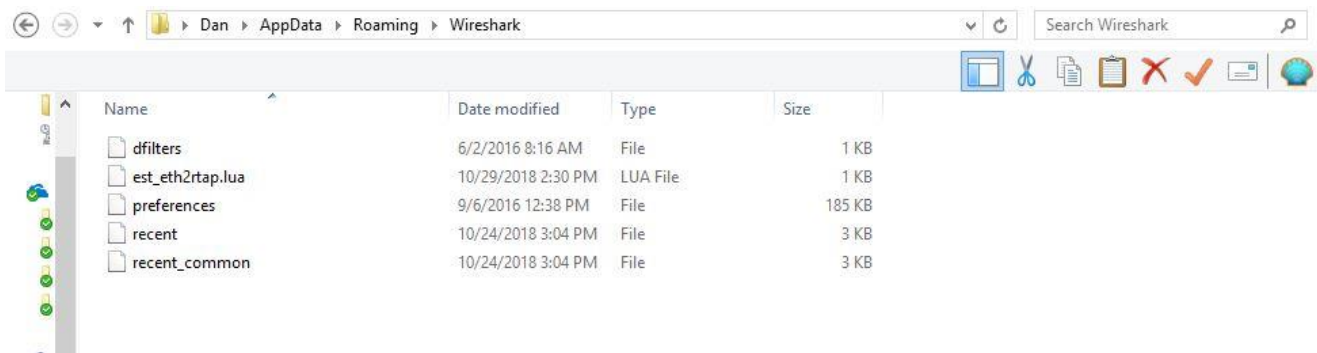

Figure 5: WireShark directory
7. Copy the downloaded **est_eth2rtap.lua** script into C:\Users\username\AppData\Roaming\Wireshark directory (Figure 5)